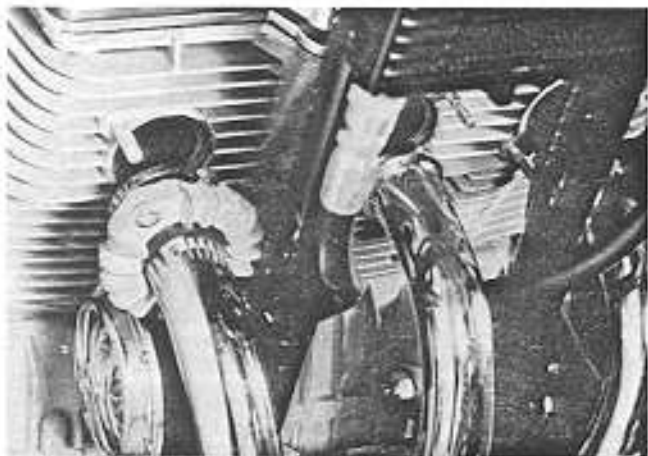

Fig. 31
- * Undo the nuts and pull the flanges from the exhaust pipe securing studs. Pull the exhaust pipes away from the cylinder head and slightly lower them positioning them as shown in figure 31.